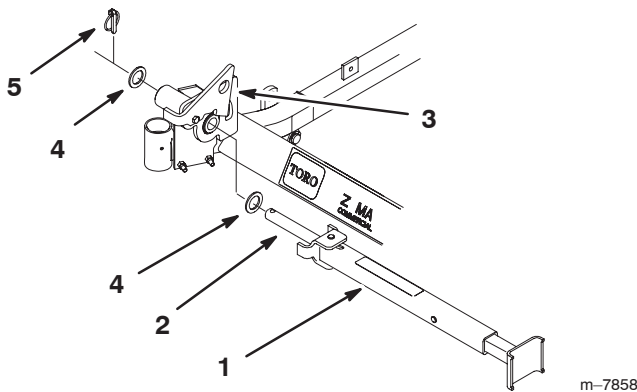

Figure 4
3. Place a thrust washer onto the pivot pin (Fig. 4).
4. Insert the pivot pin into the Z Stand hub as shown in Figure 4.
5. Place a thrust washer onto the pivot pin and secure with a lynch pin (Fig. 4).